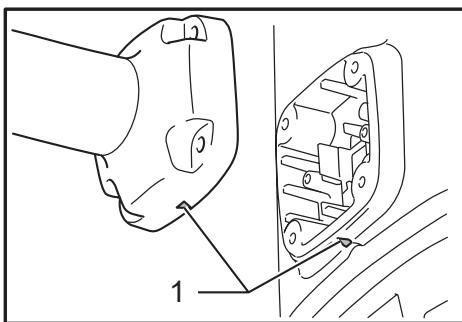

Fig.4
► Fig.4: 1. Triangle alignment mark